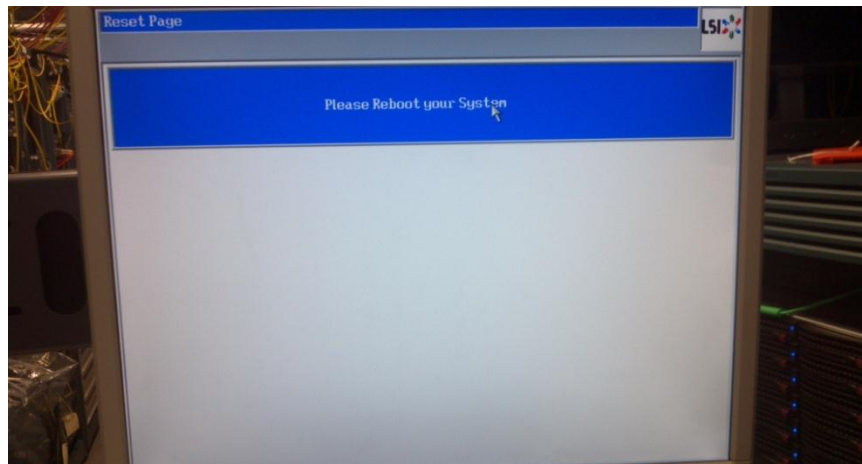

Figure 47: LSI Reboot prompt
10. Select exit >yes >reboot the server by turning on and off the power button. Please see Figure 47 below